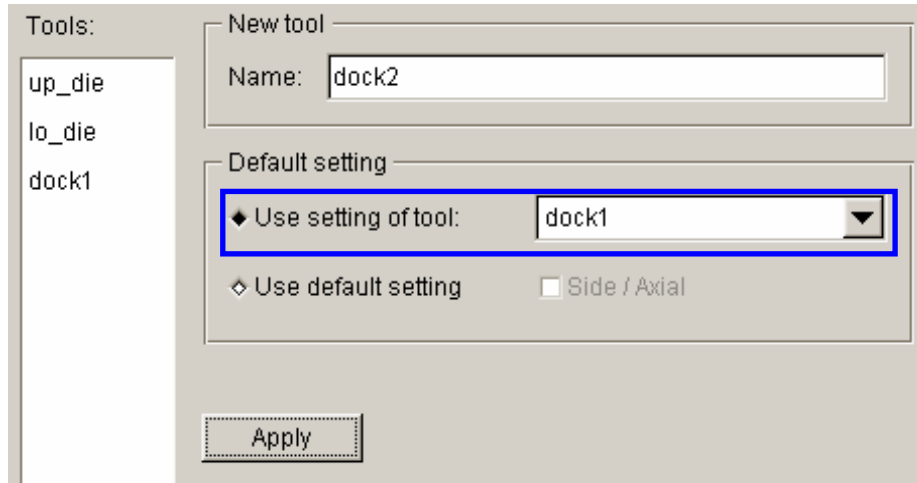

Figure 3.26 Create dock2
24. Now, let's define the docking rod on the right hand side by repeating steps 17-21. The new tool name is **dock2**. Select **Use setting of tool** option illustrated in Figure 3.26.